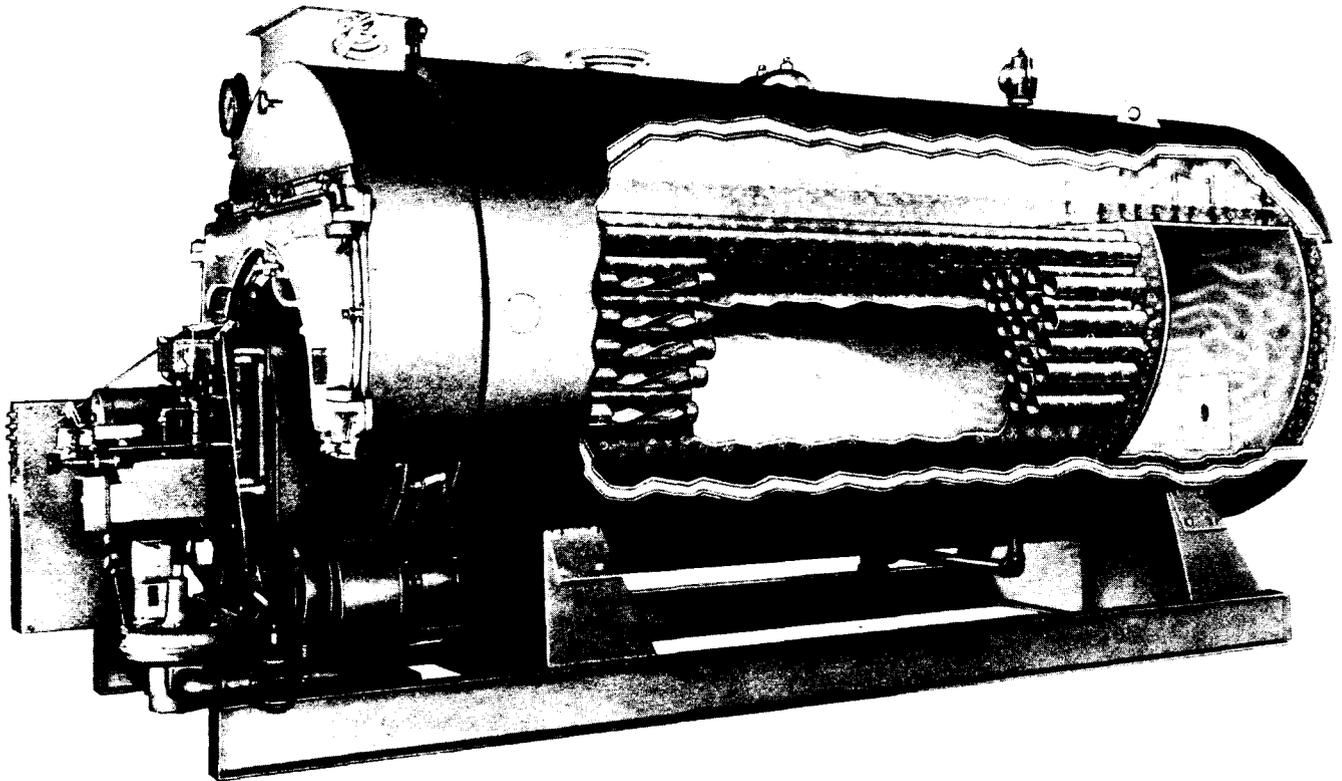
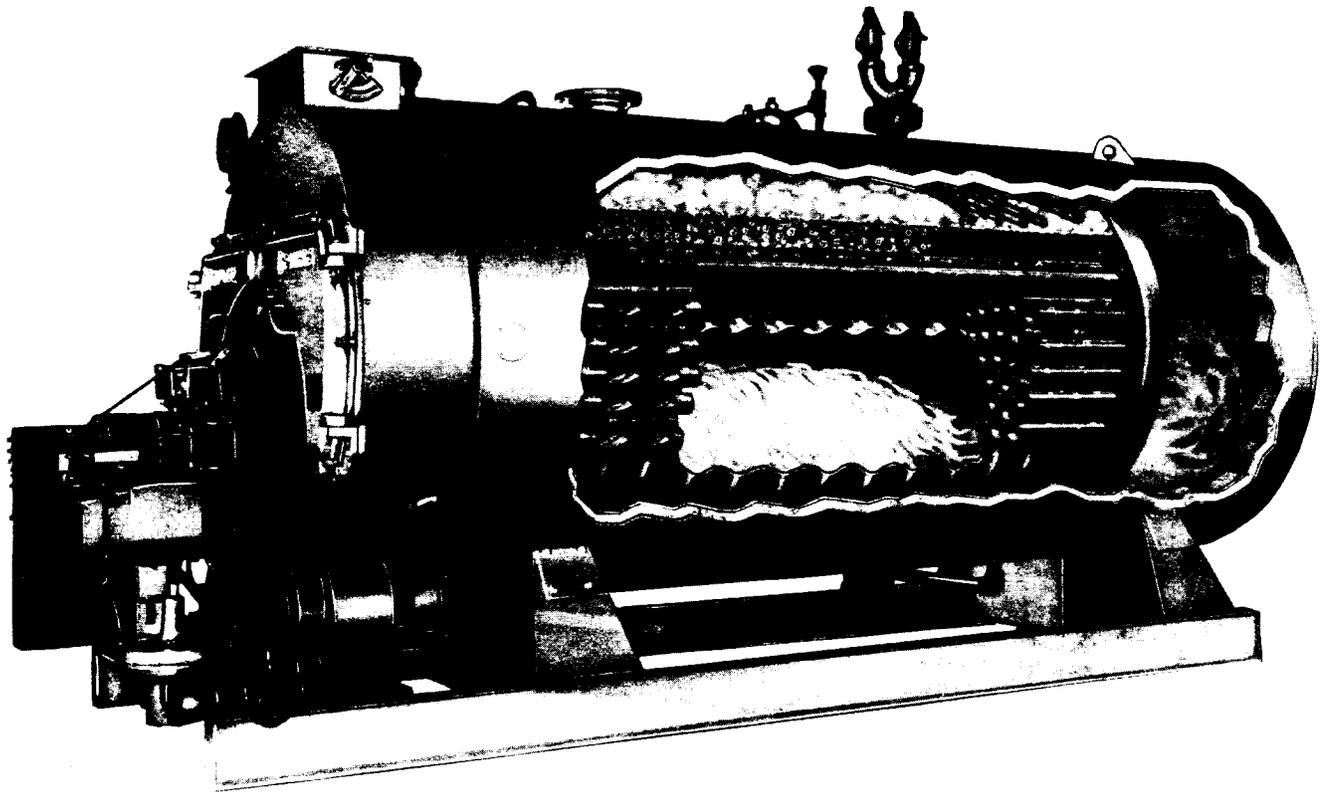
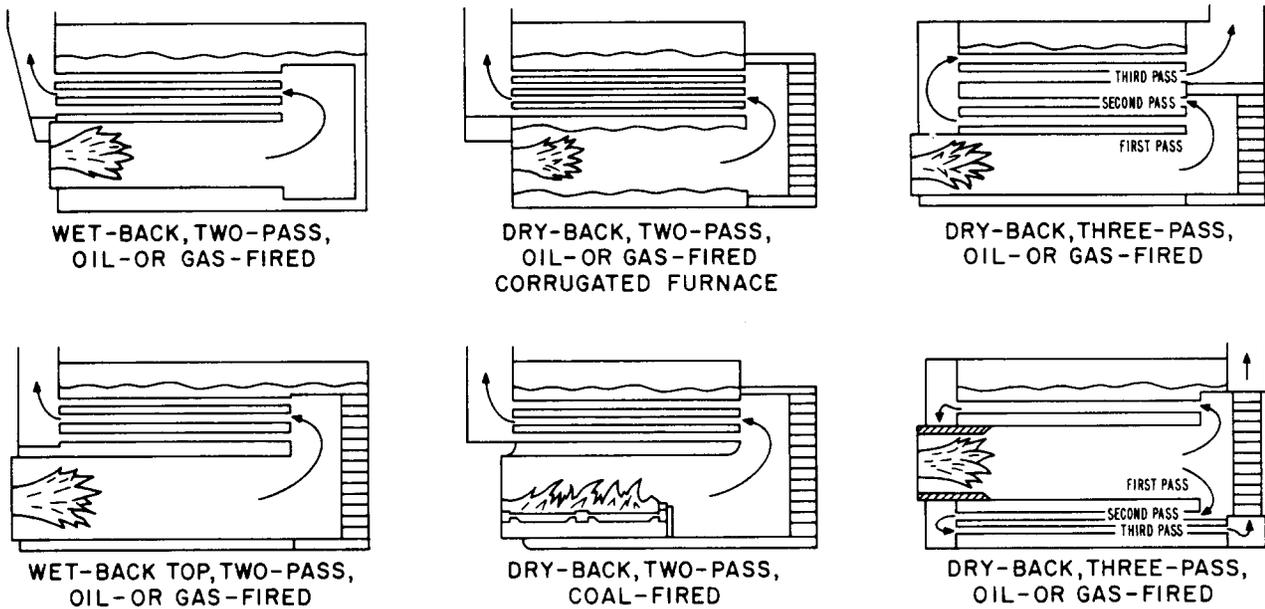

Fig. 8—Scotch Boiler, Wet-Back Type (Industrial Division, American Radiator and Standard Sanitary Corporation)
Fig. 9—Scotch Boiler Dry-Back Type (Industrial Division American Radiator and Standard Sanitary Corporation)
Fig. 10—Gas Flow in Scotch Boiler Types (From BOILERS by C. D. Shields. Copyright 1961. McGraw-Hill Book Co. Used by Permission.)
**4.07** Scotch boilers are manufactured in two designs, the wet-back (Fig. 8) and the dry-back (Fig. 9) plus a modification of the former known as a wet-top or partial wet-back. The gas flow patterns vary from two pass to four pass and while these boilers can be adapted to any fuel they are ideally suited for natural gas or oil. Fig. 10 illustrates these.